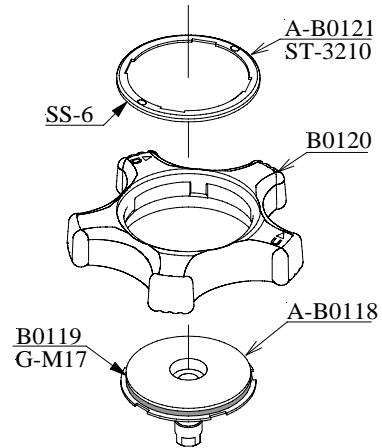

Fig.7-1-7
- 3) Using ST-3210, tighten A-B0121 to A-B0118. (Fig.7-1-7)